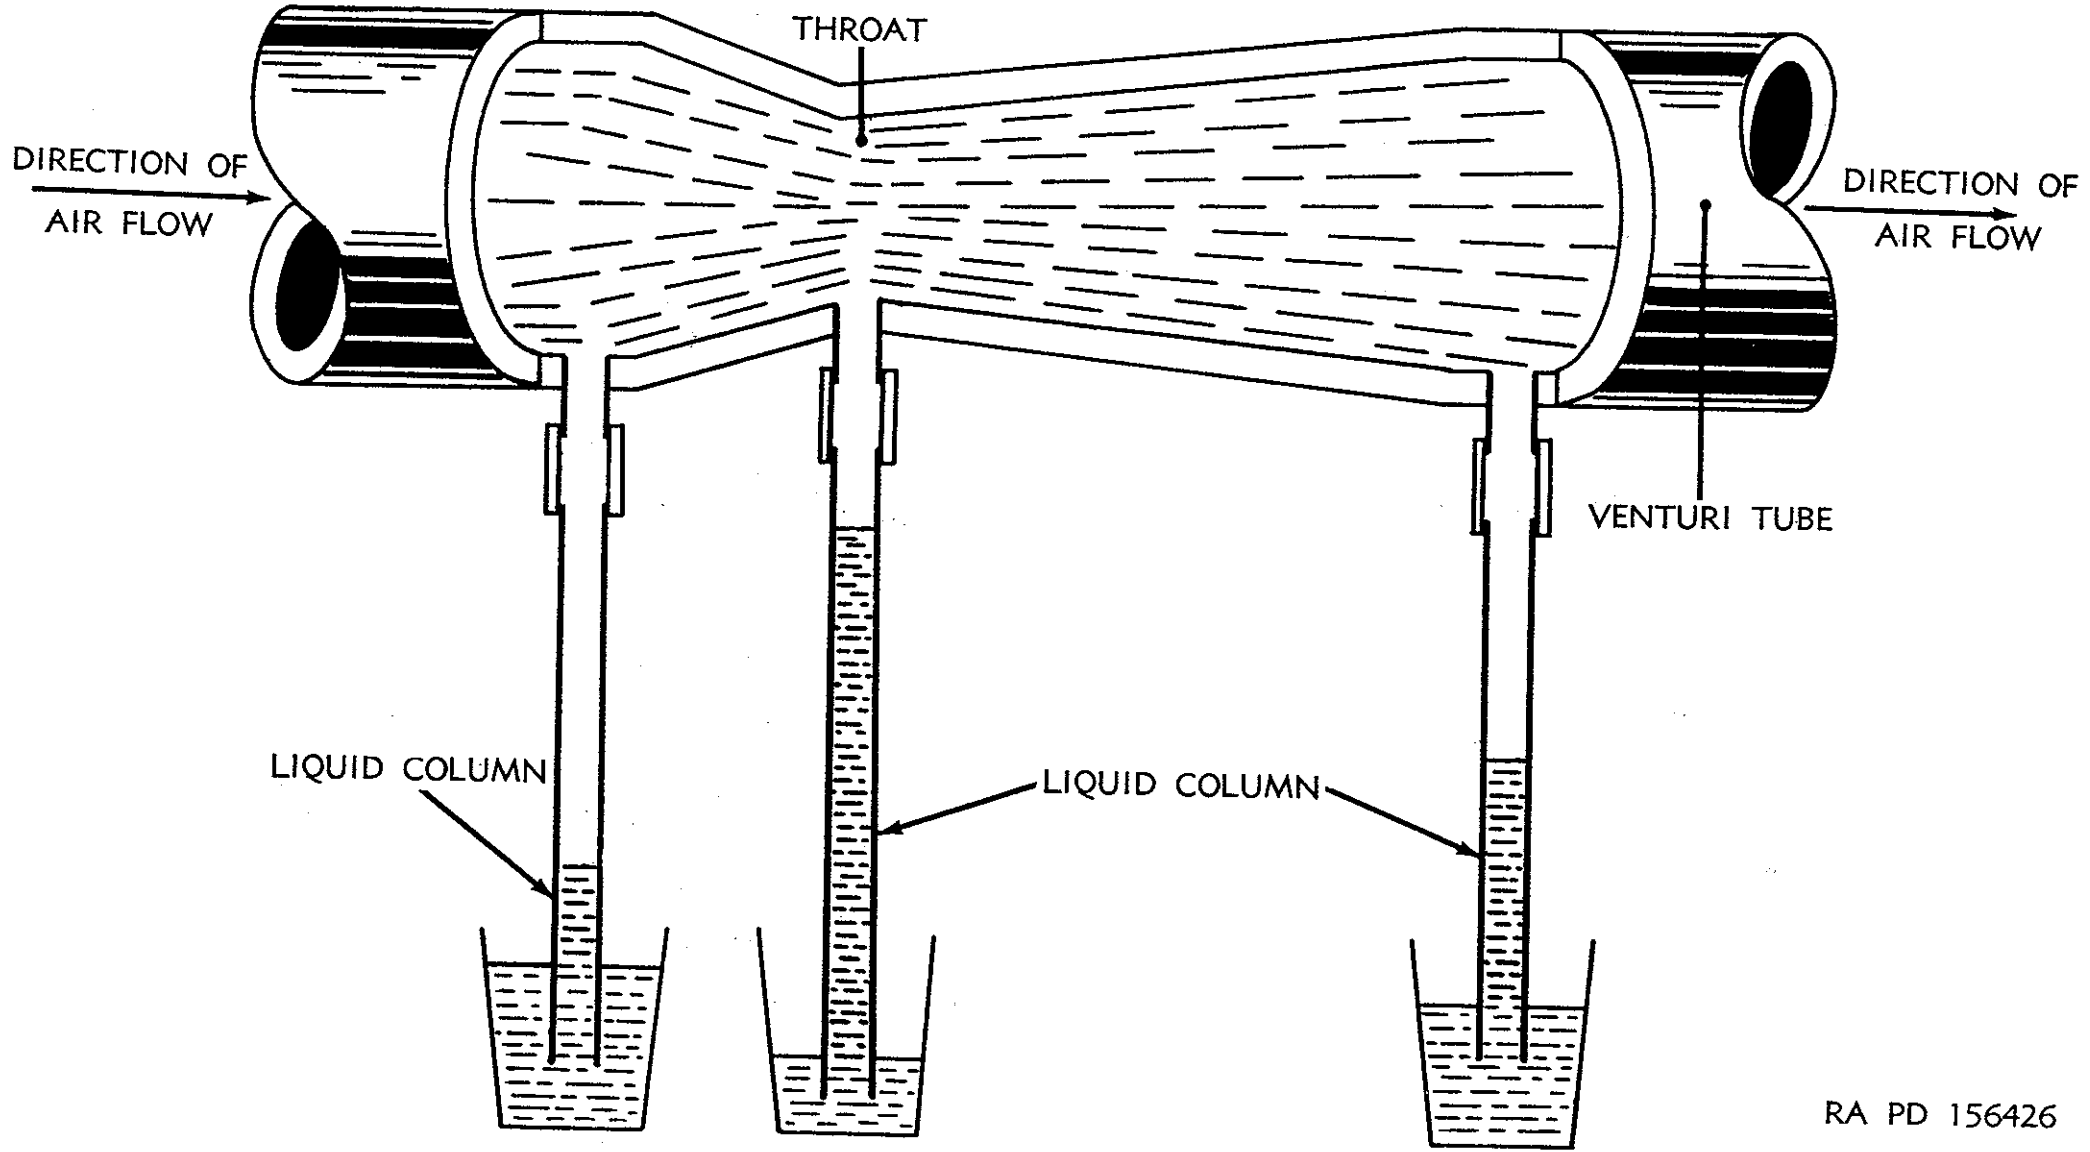
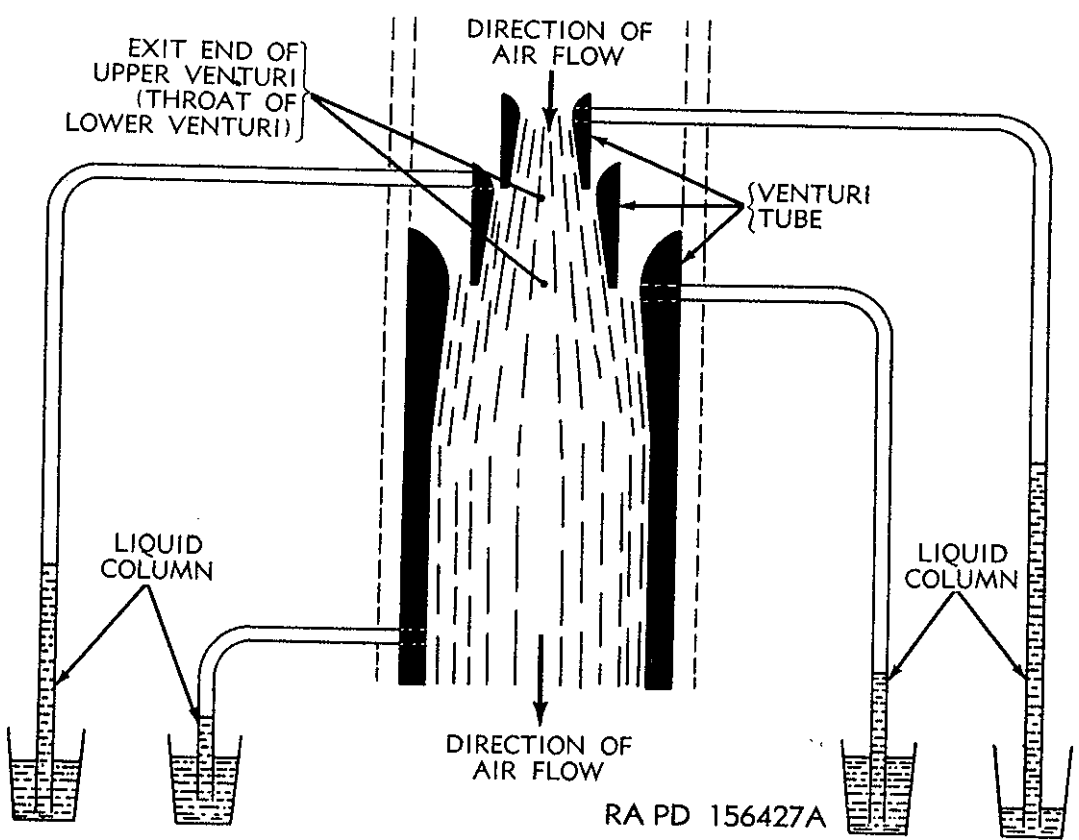
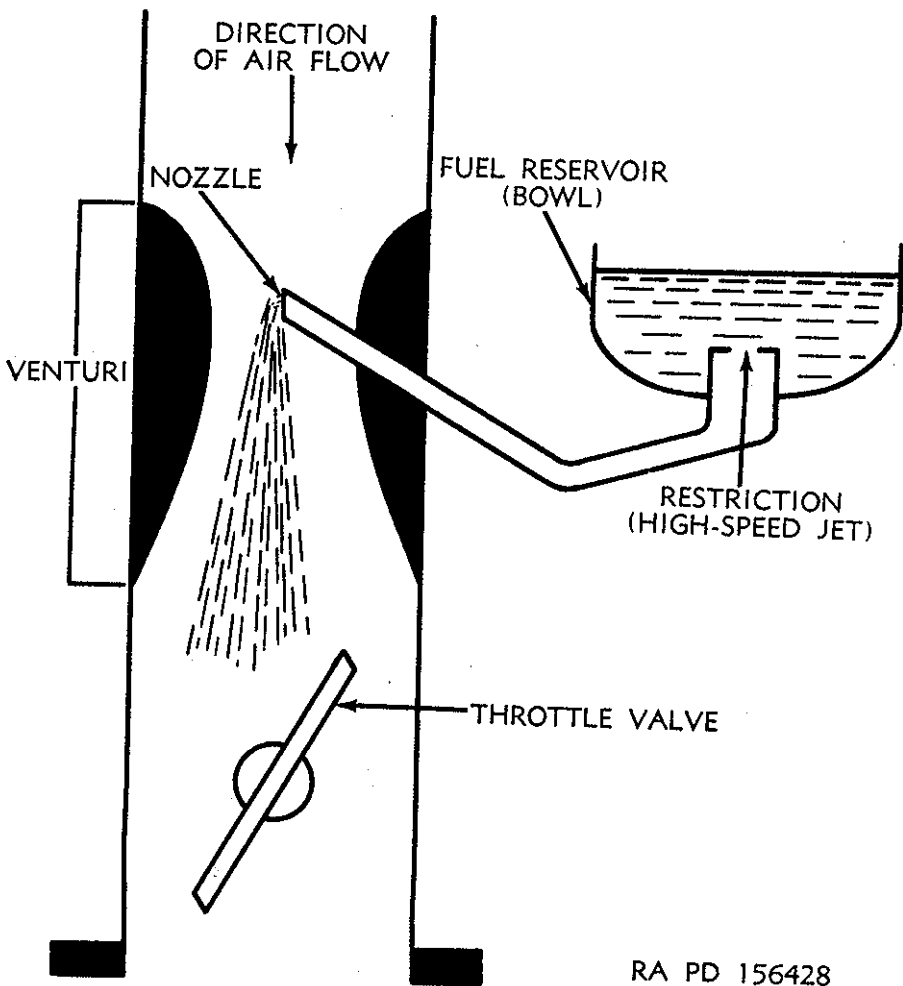

Figure 4. Action of air flowing through a venturi tube.
Figure 5. Triple venturi system.
Figure 6. Basic high-speed circuit.
*b. Principles of Operation.* The principle upon which the high-speed circuit operates is similar to that for the low-speed circuit in that both make use of a vacuum or low-pressure area to suck the gasoline into the carburetor. However, the high-speed circuit must discharge when the throttle is open and there is very little vacuum created by the engine. Consequently, some other method must be used to create the necessary low pressure. The device used to do this is known as a venturi tube (fig. 4). Air is shown flowing through the tube from left to right. As the air approaches the narrowest portion called the "throat," it is speeded up and the pressure drops. As the air passes through the expanding portion of the venturi, the pressure increases until at the end of this section the pressure is only slightly below that at the entrance to the tube. The pressures in the venturi tube are indicated by the heights of the liquid columns in the attached tubes. If several venturi tubes (fig. 5) are arranged so that the exit end of one is in the throat on the next, the drop in pressure in each tube will be passed on to the one inside it, as shown by the heights of the liquid columns. In this manner, a higher vacuum can be produced at the throat of the smallest venturi than could practically be produced if only a single venturi were used. Practical carburetors are in use which employ both single and multiple venturi systems. The venturi provides the means of creating the low pressure that is needed to cause fuel to flow into the venturi tube. Figure 6 shows the venturi installed in a carburetor. A simple nozzle extends from the fuel reservoir (bowl) into the throat section of the venturi. The bowl end has a restriction (high-speed jet) in it to limit rate at which the fuel can flow into the nozzle.
- (1) *Intermediate speed.* At speeds below 20 mph, the air does not flow through the venturi with enough speed to cause any discharge from the nozzle. At 20 mph the nozzle discharge begins and increases rapidly until a speed of 30 mph is reached. In this range (20 to 30 mph), both the low-speed and high-speed circuits are functioning. The two discharges combine with the entering air to give the required 16:1 ratio. At speeds above 30 mph only, the high-speed circuit functions. The characteristics of this simple system are such that an air-fuel ratio of 16:1 will be maintained at all speeds up to 30 mph.
- (2) *High speed.* Since the requirements of the engine demand that at speeds above 30 mph a richer mixture than 16:1 be supplied, it is necessary to incorporate some device into the high-speed circuit which will enrich the mixture at high speeds. Several devices may be used to accomplish this. One of them, the metering rod, is described here. Two others, the step-up jet and vacuumeter, are described later in the text
in relation to the carburetors to which they apply. In figure 7 the plain high-speed jet of figure 6 has been enlarged and a "metering rod" inserted into it. The metering rod is a rod with two or three steps machined on its lower end. The effective size of the high-speed jet may be varied by moving the metering rod up or down. The upper end of the rod is connected, by linkage (represented by the dotted lines), to the throttle valve. When the throttle valve is more than three-quarters open (B of fig. 7), corresponding to speeds above 50 mph, the smaller step of the rod is in the jet. This increases the effective size of the jet and permits the greater flow of fuel necessary to enrich the mixture.